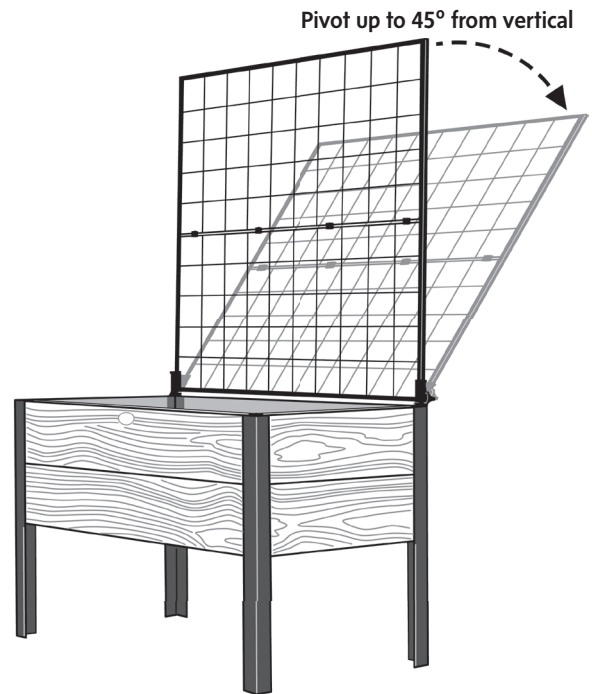

Figure 1
**Step 3.** Slide a Corner onto the ends of the Cedar Boards, positioning it so the holes in the Corner match Figure 1. **NOTE:** The top Cedar Board should sit  $\frac{1}{8}$ " above the top of the Corner. Make sure the Boards are tight together and are fully seated in the Corner, then use your screw gun to insert Screws through the holes, skipping the 2nd from the bottom hole. Repeat to attach another Corner onto the other side of the Cedar Boards.
**Step 4.** Using the assembled End Panel as a reference, line up the holes in the ends of the Platform Support with the open holes in the Corners (Figures 1 & 2). Insert a Screw into both sets of holes.
**Step 5.** Again using Figure 1 and the assembled End Panel as references, slide 2 Flat Stock underneath the Platform Support. Line up with the 2nd from the bottom holes in the Flat Stock with the holes in the Platform Support and make sure they are straight. Secure the Flat Stock into place by inserting Screws through all of the holes.
**Step 1.** Place a Short Bracket over the threaded post of the Bottom Panel, as shown in Figure 1. Then, place a Long Bracket over the threads and cogs of the Short Bracket. Adjust the Long Bracket to the desired angle up to 45 degrees, as shown below.